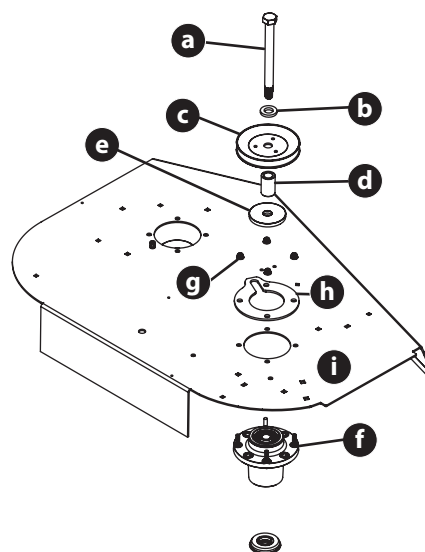

Figure 49
4. Remove the hex bolt (a), washer (b), pulley (c) spacer (d) and fender washer (e) from the spindle assembly (f) (Figure 49).
5. Remove the four flange lock nuts (g) and support plate (h) securing the spindle assembly (f) to the deck (i) (Figure 49).
7. Reverse STEPS 4-5 to install the spindle assembly. When installing the new spindle assembly be sure to install the hardware exactly as shown in Figure 49 on page 29. Torque the flange lock nuts to 21-32 ft-lbs (28-43 N-m).